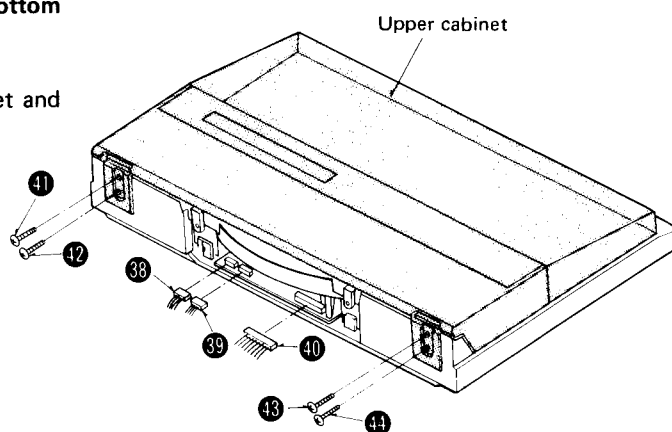

Fig. 11
2. Remove the connectors 38 ~ 40. (Fig. 11)
3. Remove the hinge setscrews 41 ~ 44; open the upper cabinet and remove it by lifting. (Fig. 11)